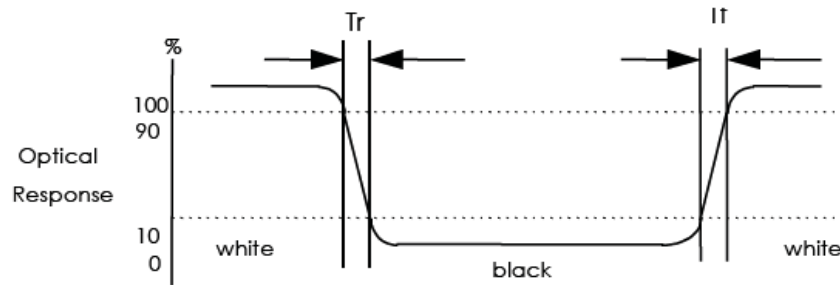

FIG. 2 Measuring method for Contrast ratio, surface luminance, Luminance uniformity, CIE (x, y) chromaticity
Note 1. Contrast Ratio(CR) is defined mathematically as For more information see FIG 2.
Note 2. Surface luminance is the LCD surface from the surface with all pixels displaying white. For more information see FIG 2.
Note 3. The uniformity in surface luminance , δ WHITE is determined by measuring luminance at each test position 1 through 5, and then dividing the maximum luminance of 5 points luminance by minimum luminance of 5 points luminance. For more information see FIG 2.